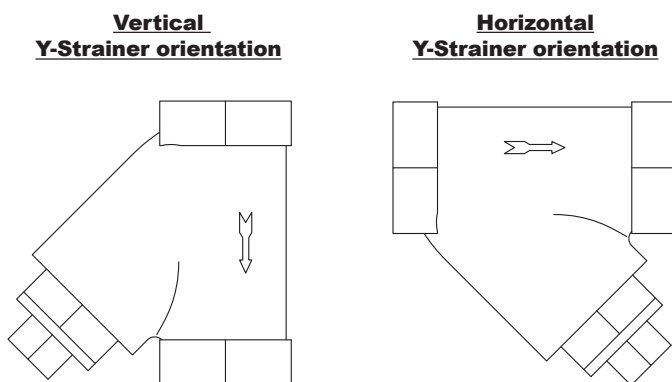

Figure 2
4. Install Y-Strainer (provided) to dispenser inlet (see Figure 2).